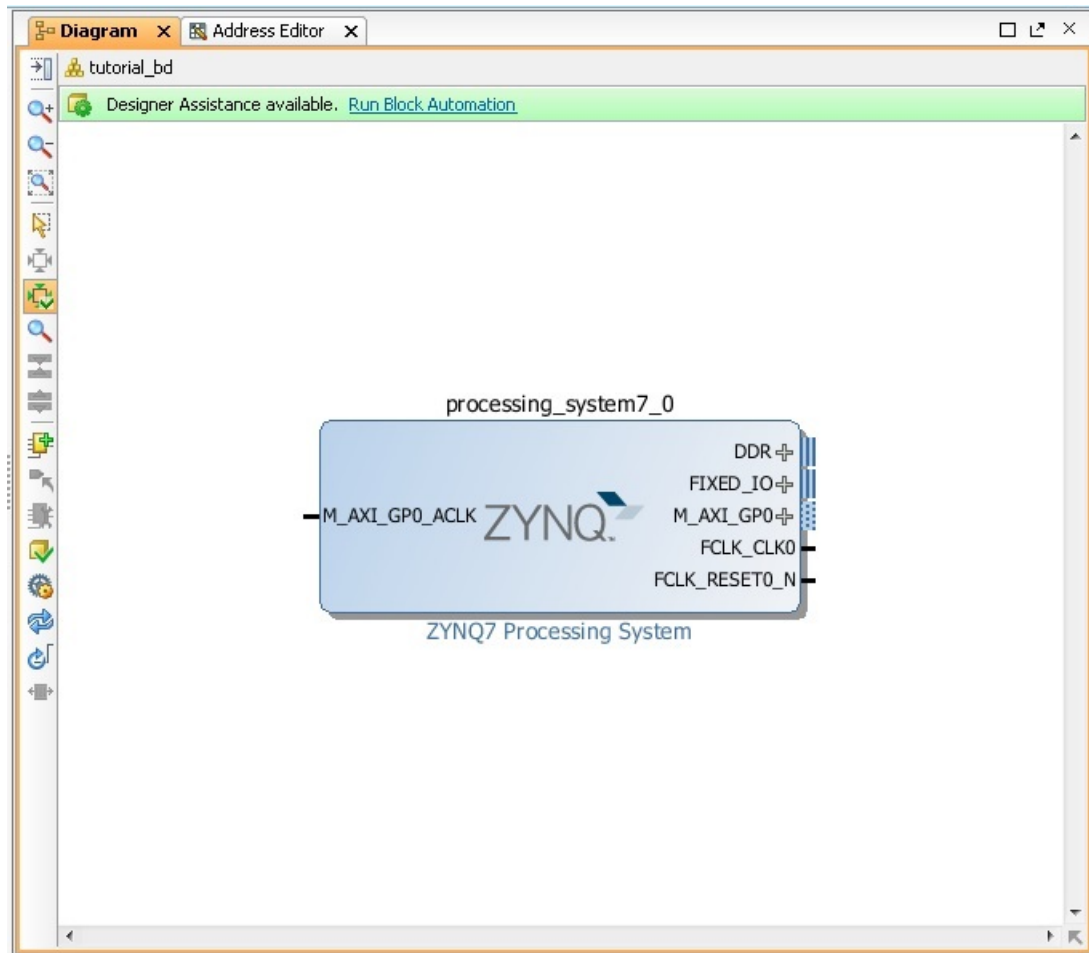

Figure 2-2: Zynq SoC Processing System IP Block
5. In the search box, type "zynq" to find the Zynq device IP options, and double-click the **ZYNQ7 Processing System** IP to add it to the Block Design. The Zynq SoC processing system IP block appears in the Diagram view (Figure 2-2).